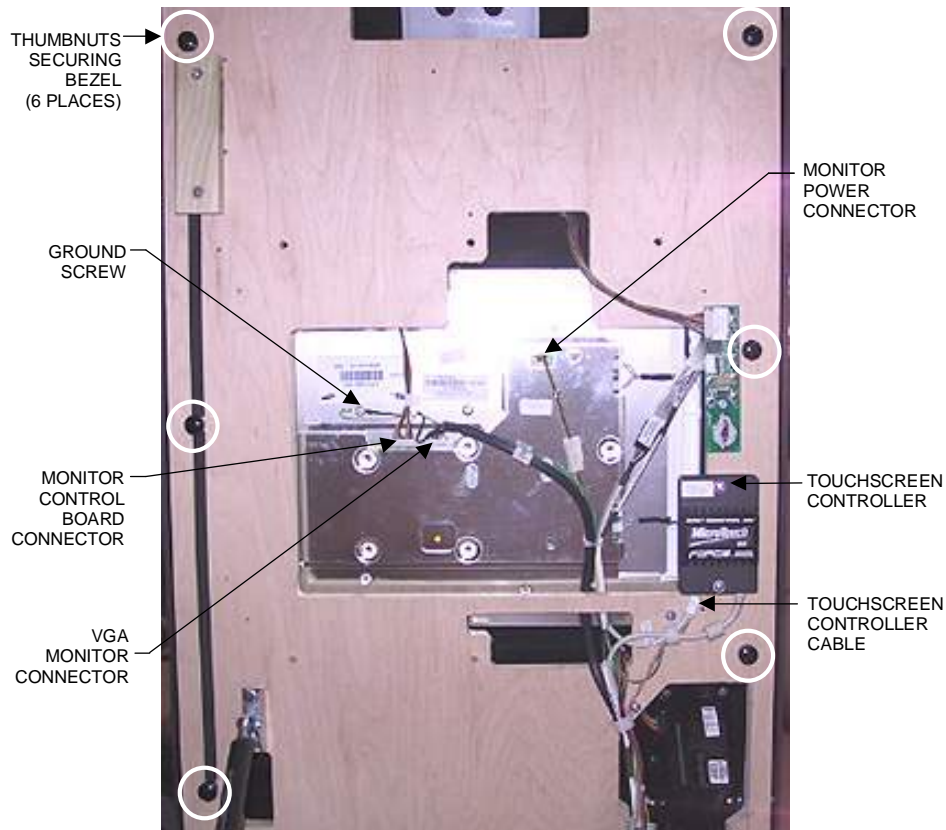
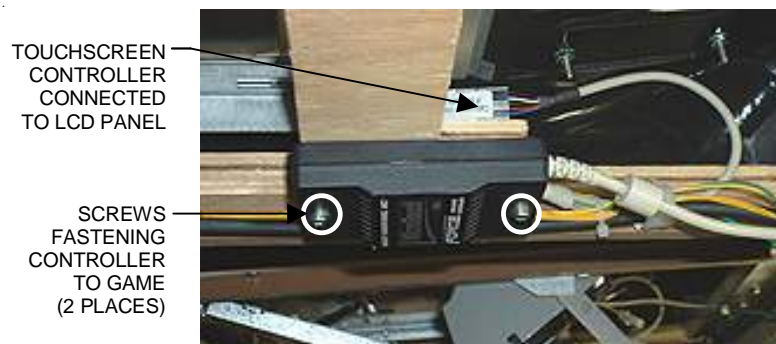

FIGURE 4 - FORCE FUSION WITH ELECTRONICS BOX - UNDERSIDE OF BEZEL
FIGURE 9 - FORCE FUSION WITHOUT ELECTRONICS BOX - TOUCHSCREEN CONTROLLER MOUNTED ON BEZEL
3. *Force games:* Remove the 6 thumb-nuts fastening the bezel to the game (see Figure 4) and remove the bezel.
Ion games: Disconnect the dongle wire from the top of the electronics box and the fast-on connectors from the coin mech (see Figure 5). Remove the 6 thumbnuts fastening the bezel to the game (see Figure 4). Lift up on the bezel and disconnect the joystick harness (black, 10-pin connector) located between the bezel and the wooden frame. Remove the bezel.
4. *Force games:* Carefully remove the screws fastening the touchscreen controller (see Figure 4) to the game and disconnect the cable from the back of the controller; also disconnect the ground screw.
6. Disconnect the VGA monitor connector, as well as the monitor power connector and the monitor control board connector. (For Force games, see Figure 4; Ion games, see Figure 5.)
2. Connect the VGA monitor connector and ground screw, the monitor control board connector, and the monitor power connector to the new monitor. (See Figure 4 for Force games, Figure 5 for Ion games.)
controller (making sure that the cable's pins are correctly aligned) and secure the controller with the existing hardware (Figure 4).
4. Remove the screws fastening the touchscreen controller (see Figure 4) to the game and *carefully* disconnect the cable from the back of the controller. Disconnect the ground screw, and release the cables from the cable clamps. See Figures 9 and 10.
6. *Carefully* reconnect the touchscreen controller cable in the back of the controller and secure the controller in the game with the existing hardware. Reattach the ground screw. Replace the cables in the clamps as before. See Figures 9 and 10.